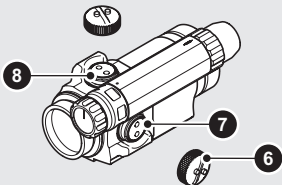

Fig. 2 Remove adjustment caps
- a Open lens covers (3) and (4).
- b Adjust the intensity (5) to a comfortable setting for the red dot to contrast against the target.
- c Remove the two adjustment caps (6) to access the windage adjustment screw (7) and the elevation adjustment screw (8). See Fig. 2